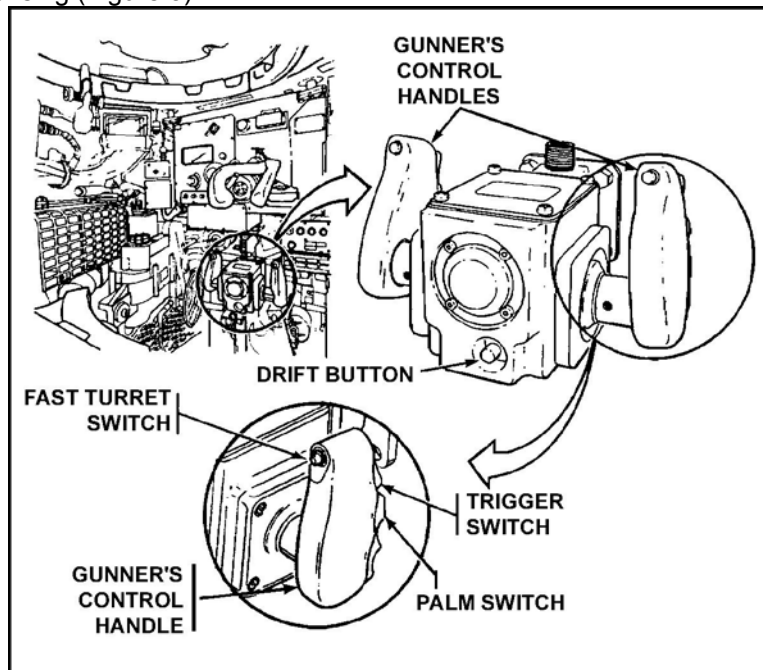

Figure 5. Gunner's control handle.
11. Fire at the target by squeezing the trigger switches on the gunner's control handles. Fire one round at a time for sensing (Figure 5).